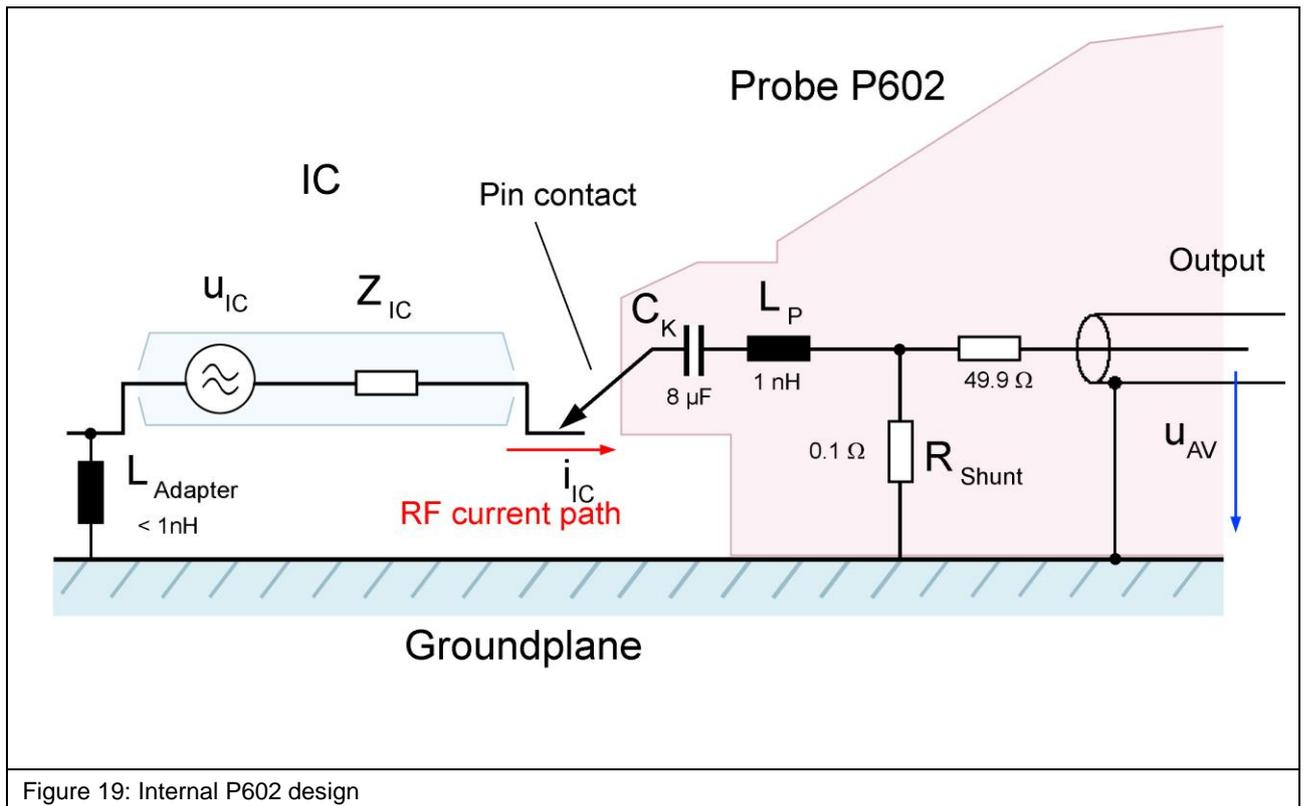

Figure 19: Internal P602 design
**Figure 19** shows the equivalent circuit diagram of the **P602** probe. The current probe head comprises a 0.1 Ohm shunt, 49.9 Ohm matching resistor and 8 μF coupling capacitor.